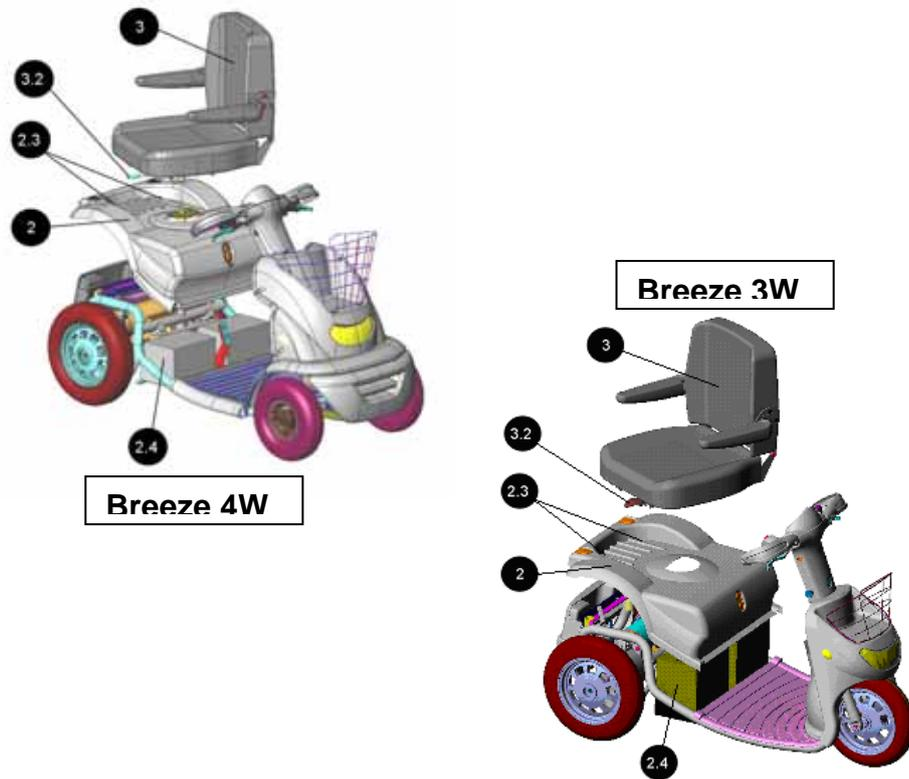

Figure 7
2. The numbers in parentheses refer to the parts illustrated in figure 7.